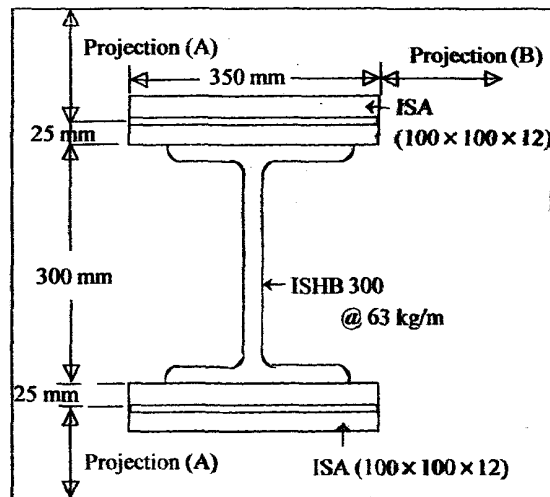

Fig. 9
- (a) Design the suitable slab base for a column having one ISHB 300 @ 63 kg/m and two cover plates of 350 mm × 25 mm as shown in Fig. 9. The column carries an axial load of 240 ton. Assume the permissible bearing stress for slab base = 1890 kg/cm². 10